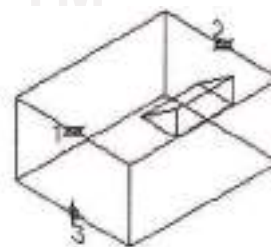

Figure 1
a. Draw a box and a wedge with an approximate size as shown in figure 1.